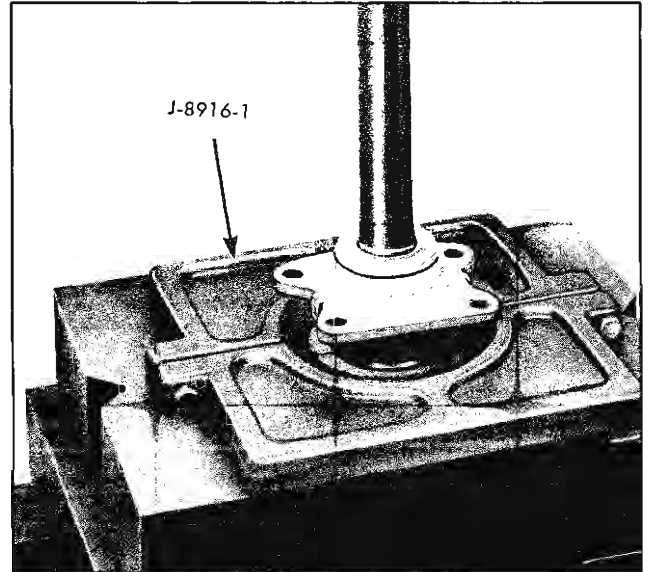

Fig. 4-9 Removing Axle Shaft Bearing
1. Place axle shaft in press (Fig. 4-9) with J-8916-1 puller plate below the puller ring, then remove oil deflector shield, bearing, and puller ring.